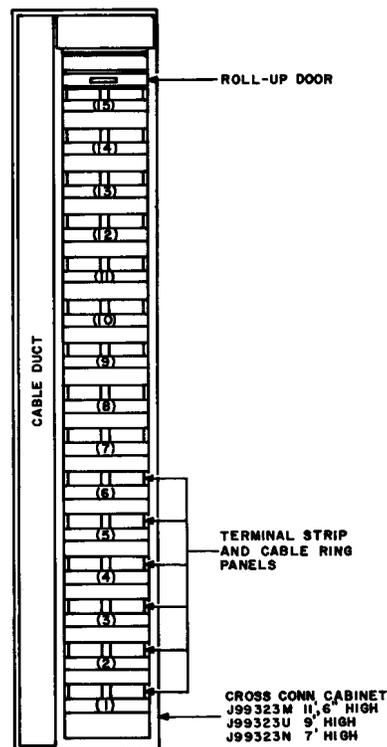

Fig. 6 — N2 Cross-Connection Cabinet Single-Bay Framework
2.20 *The J99323M cross-connection cabinet* shown in Fig. 6 is a single-bay arrangement 26-3/8 inches wide and mounts on 26-1/2 inch centers. The 15 terminal strip and cable ring
2.22 *The J99323U cross-connection cabinet* is a single-bay arrangement 26-3/8 inches wide, mounts on 26-1/2 inch centers, and is similar to the unit shown in Fig. 6 except that the
2.24 *The J99323N cross-connection cabinet* is a single-bay arrangement 26 inches wide and 7 feet high and mounts on 26-1/8 inch centers to be compatible with No. 1 ESS bays. The cabinet is similar to the unit shown in Fig. 6 except that the height has been reduced to 7 feet. The eight terminal strip and cable ring assembly panels can be mounted in the framework to connect up to 480 carrier pairs to N-type terminals, to N- and ON-type repeaters, and to other miscellaneous equipment. The equipment is assembled and wired in the field.